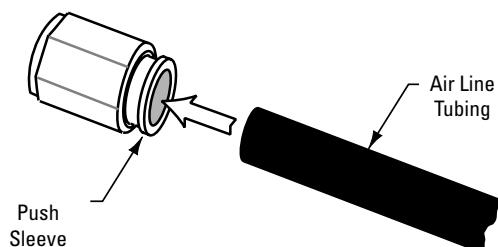

**Fig. 34**
- Attach retainer brackets for the rear recoil hose with M8 x 30 Lg. hex cap screw, flat washer, lock washer and nut, Fig. 34.
- Insert retainer cable through coils of recoil hose, Fig. 34. Run a 1/4"-20NC hex nut down onto each end of retainer cable. Insert each end of cable into retainer brackets. Secure each cable end with another 1/4"-20NC hex nut. Tighten jam nuts, Fig. 34.
- Insert retainer cable through coils of recoil hose, Fig. 34. Connect one end of recoil hose to coupling welded on rolling jack, Fig. 37 and 38.